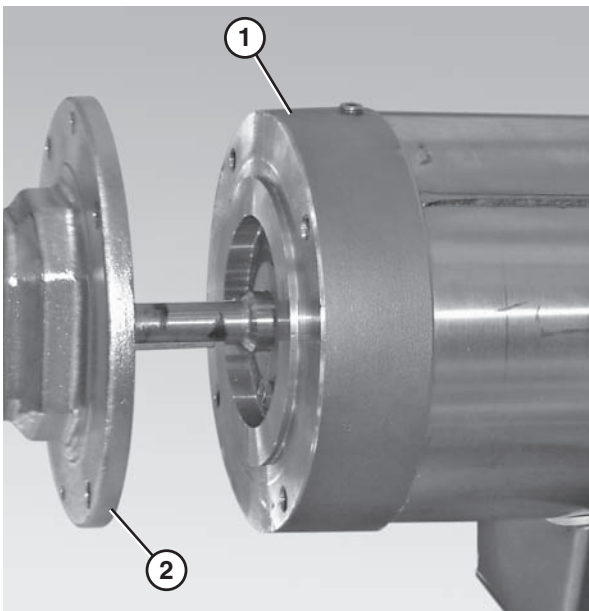

Figure 22
6. Detach the motor (Figure 22, item 1) from the gear reducer (Figure 22, item 2).